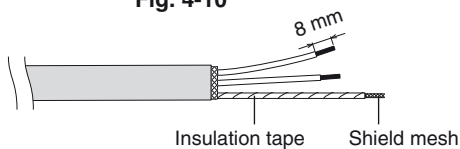

Fig. 4-11
- (3) Remove coat of signal wire. (Fig. 4-11)